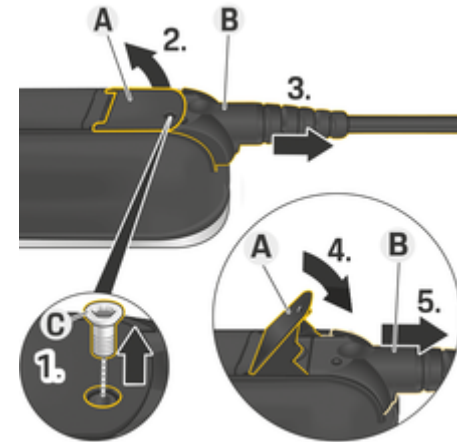

Fig. 11: Disconnecting cables
1. Remove screw **C** (Fig. 11) using a suitable tool.
2. Lift the lever **A** (Fig. 11).
3. Pull out the plug **B** (Fig. 11) until resistance is first felt.
4. Close the lever **A** (Fig. 11).
5. Pull out the plug **B** (Fig. 11) fully.